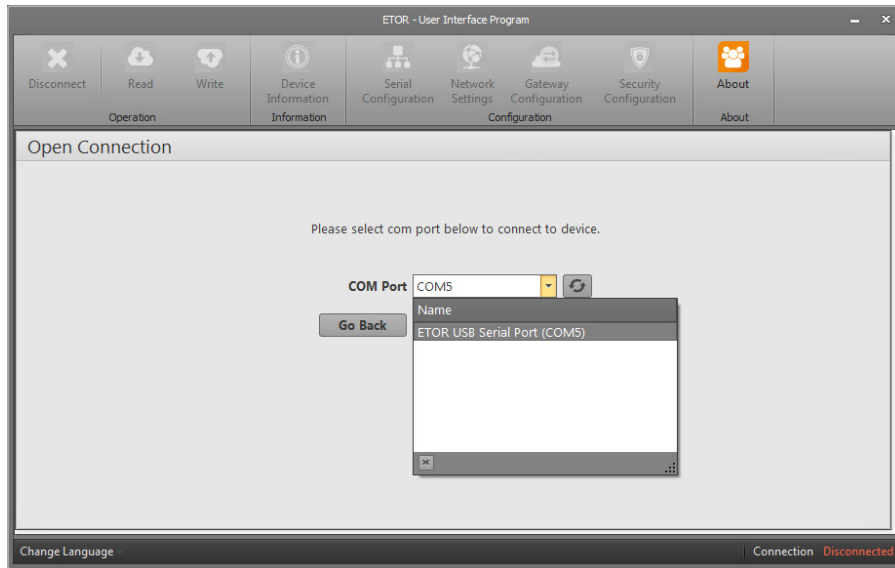

Figure 3-2 COM Port Selection
If ETOR is connected to the PC via USB cable, virtual COM port to which ETOR connects will be listed in the software as in Figure 3-2. If the correct port doesn't appear on the list, the list can be updated by clicking the “Refresh” button.
**NOTE:** If the virtual serial port to which ETOR connects is not known, it can be selected as shown in Figure 3-2. After the correct port is selected, software connection to ETOR is ensured by pressing “Connect” button.